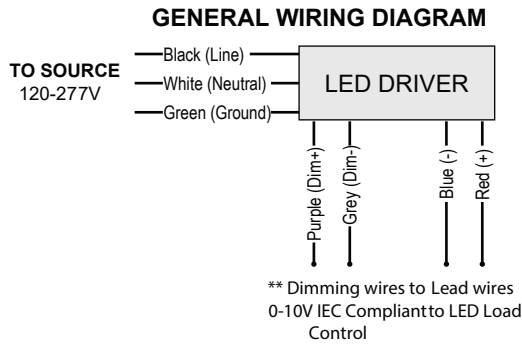

Fig. 5
- Use the provided wire caps to connect the wire leads of the troffer kit to the main power leads. (Black-Live, White-Neutral and Green-Ground) (Fig. 5)